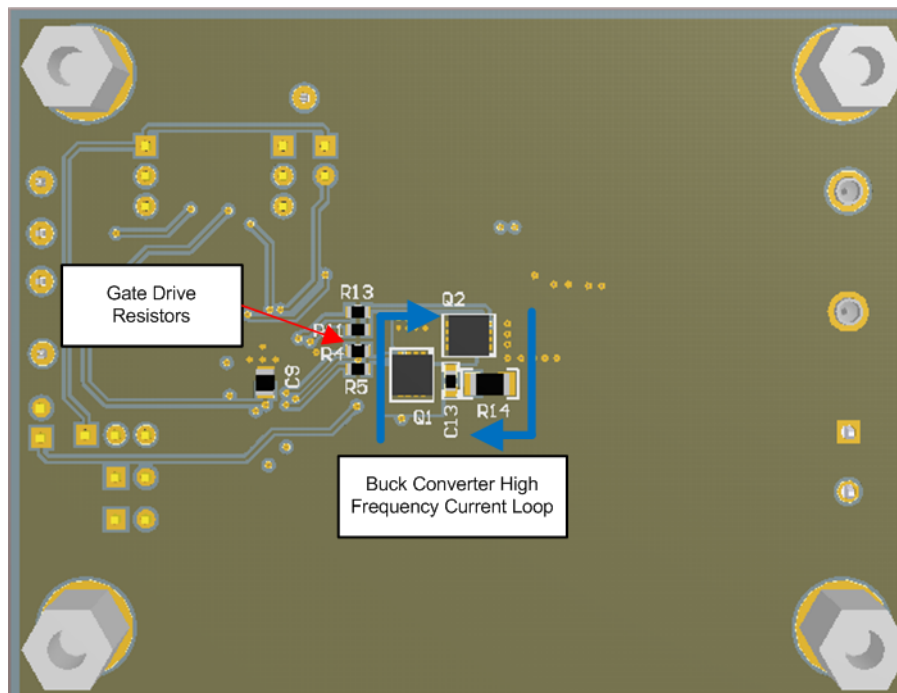
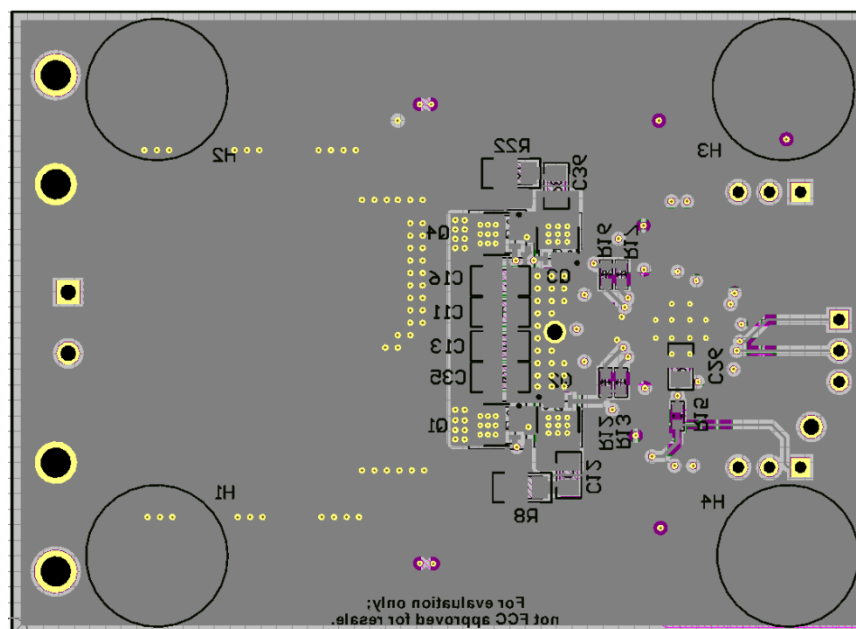

Figure 39. EVM Bottom Layer, High Frequency Current Loop
Figure 42. EVM Bottom Layer
- Figure 39 shows the high frequency loops of the synchronous buck converter. The high frequency current flows through Q1 and Q2, through the power ground plane and back to V_{IN} through the ceramic capacitors C6, C7, and C8. This loop must be as small as possible to minimize EMI. Refer to Figure 41 and Figure 42 for the recommended PCB layout.